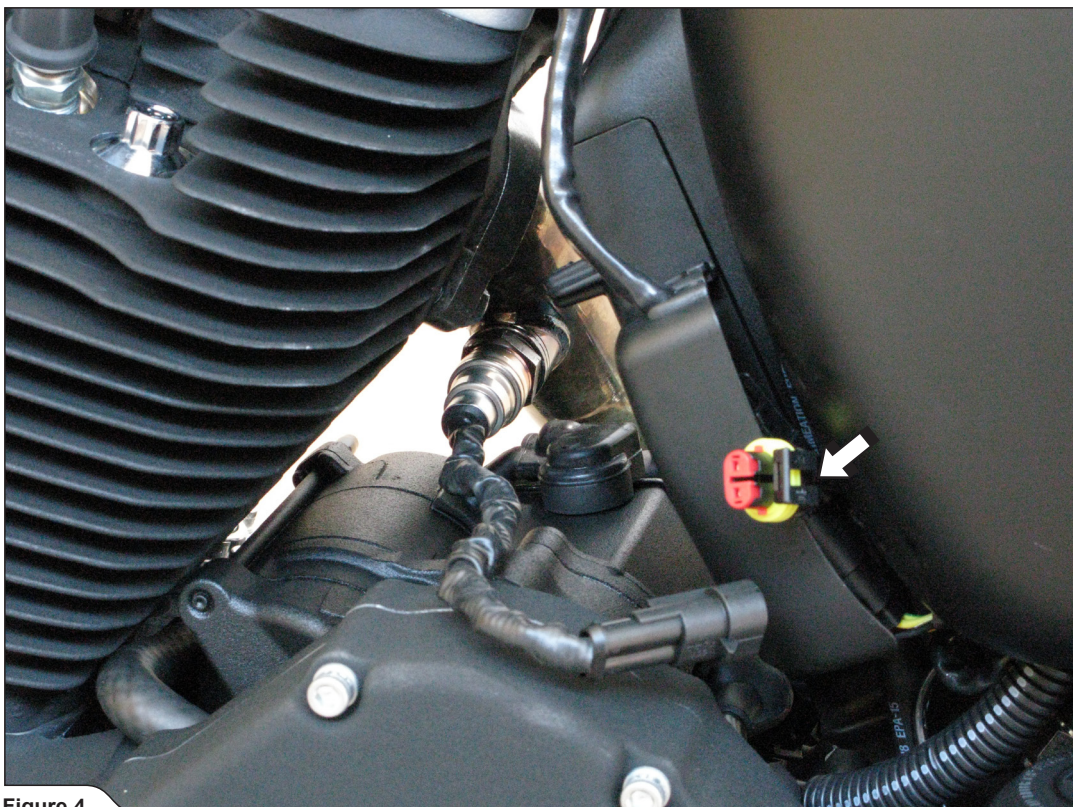

Figure 4
5. Undo the lambda sensors' electrical connectors at front and rear headers (Figure 4).